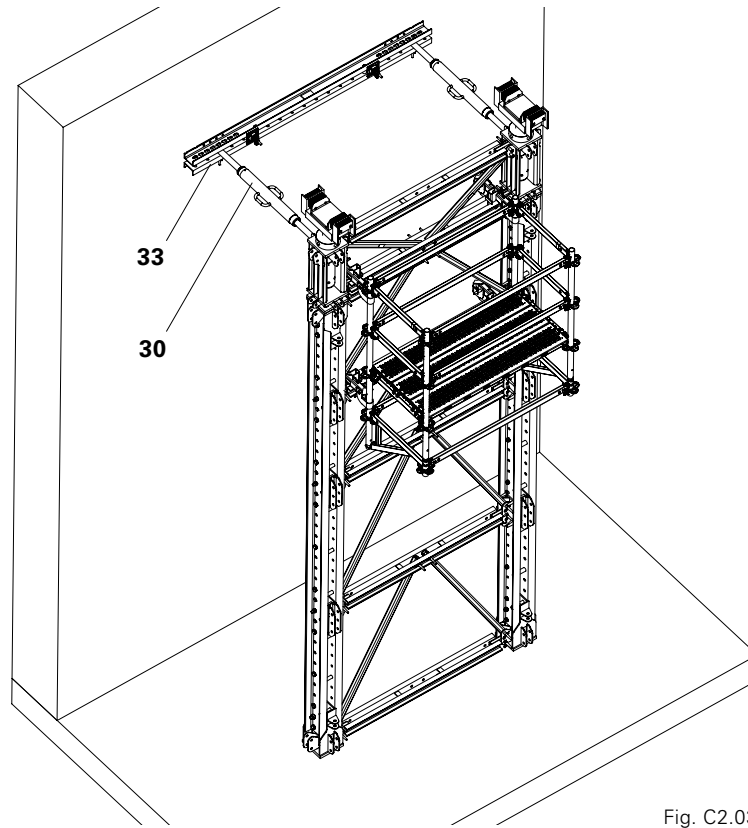

Fig. C2.03
- In order to keep the module in a horizontal position, the anchor holes on the abutment/pier can be used, e.g. with Steel Waler SRU U120 (48) and Heavy-Duty Spindle SLS (30). (Fig. C2.03)